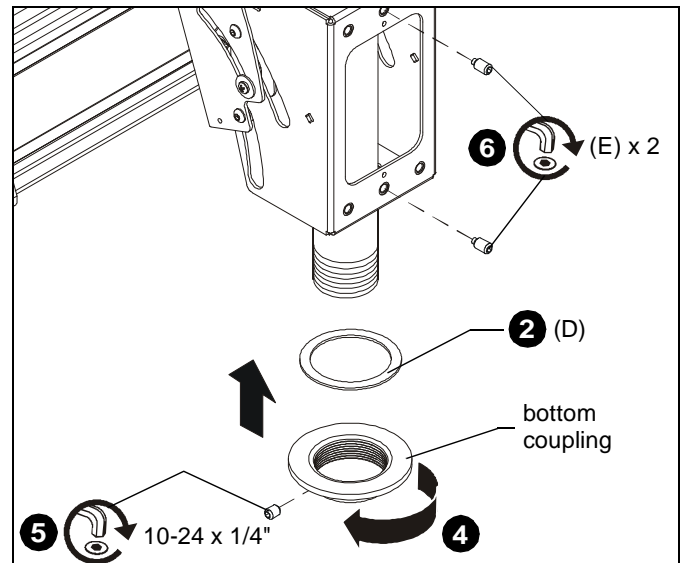

Figure 5
3. Insert one rotation ring (D) below mount assembly on leg of the quad ceiling accessory. (See Figure 5)
4. Thread bottom coupling onto leg of quad ceiling accessory until tight, with a minimum of four threads engaged. (See Figure 5)
5. Install and tighten one 10-24 x 1/4" set screw into bottom coupling. (See Figure 5)
6. Install and tighten two 5/16" nylon tipped set screws (E) [OR two 5/16" set screws included with mount assembly] through back of mount assembly and against column. (See Figure 5)
**NOTE:** The nylon tipped set screws (E) only need to be installed if the mount assemblies will be rotated after installation. If no rotation is necessary, use 5/16" set screws from mount assemblies hardware.